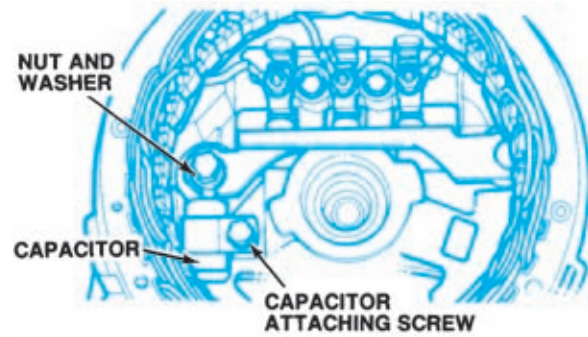

Figure 15-16. RFI capacitors can be installed inside the alternator. (DaimlerChrysler Corporation)
- Inside the alternator (Figure 15-16)